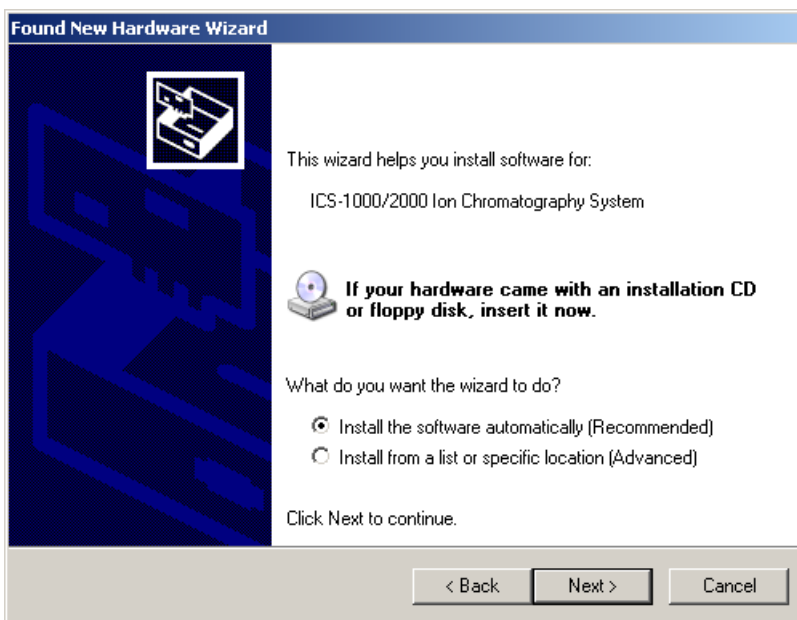

Figure B-12. Windows Found New Hardware Wizard
- Select the **Install the software automatically (Recommended)** option (see Figure B-12).